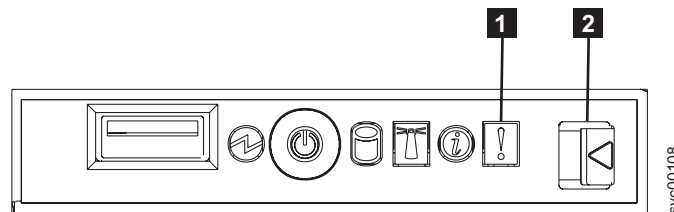

Figure 59. SAN Volume Controller 2145-8F4 operator information panel
- Is the Error LED on the SAN Volume Controller 2145-8F4 or the SAN Volume Controller 2145-8F2 operator panel illuminated or flashing? See Figure 59.